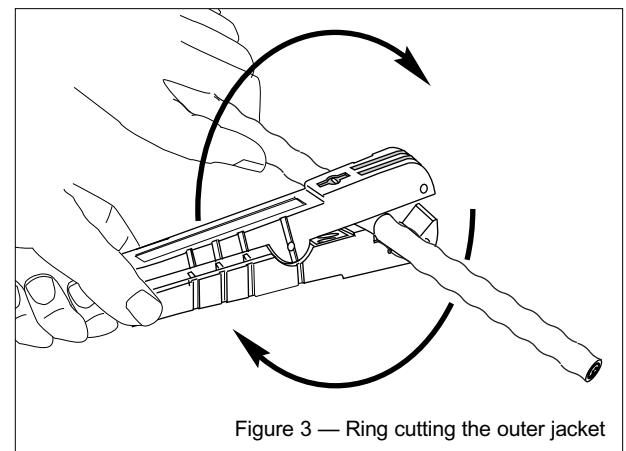

Figure 3 — Ring cutting the outer jacket
Step 3: Using the large coaxial cable cutter, make a ring cut through the outer jacket *and score the armor* at the strip-length mark (Figure 3). It may take several rotations (5-7 or more) depending on blade sharpness.